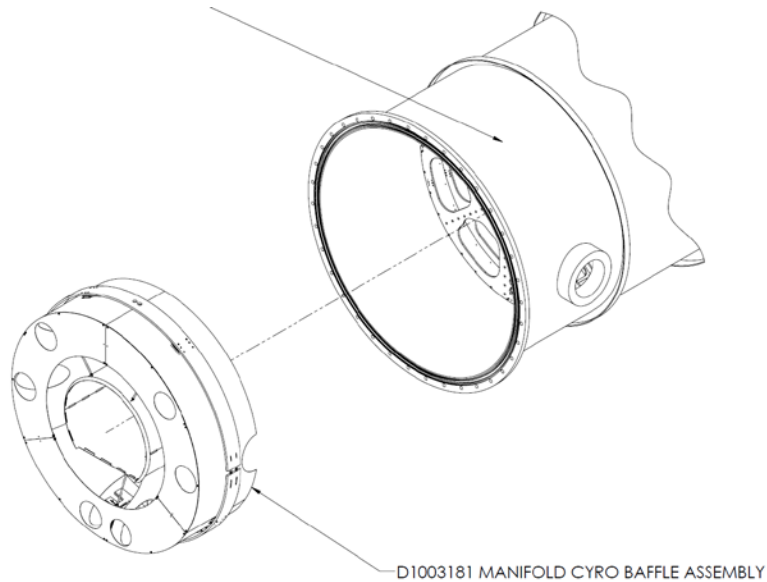

Figure 29: Adapter Removed from Manifold Tube for Baffle Insertion
1. Remove the A-1 Viewport Adapter D961140 from the D961144 A-7 Adapter, as shown in Figure 29.